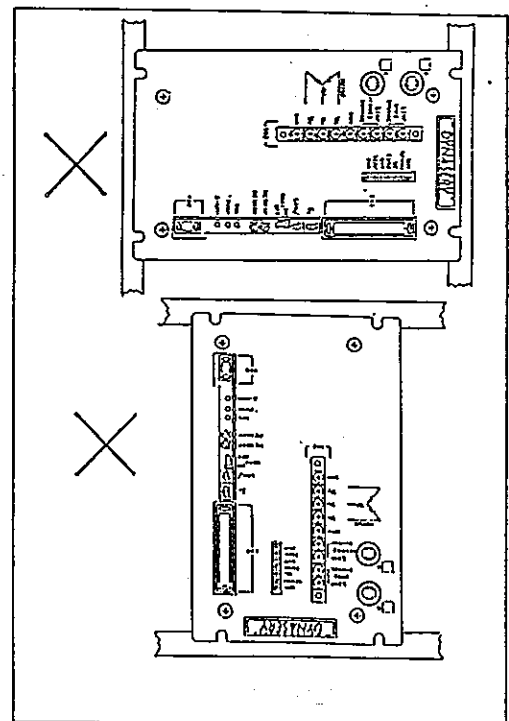

Figure 3.12
- Normally, the drive is mounted with its front panel facing forward and its top and bottom surfaces horizontal. However, it may be mounted with its front panel facing upward. It should not, however, be mounted with the front panel on its side or upside down. (See Figure 3.12.)